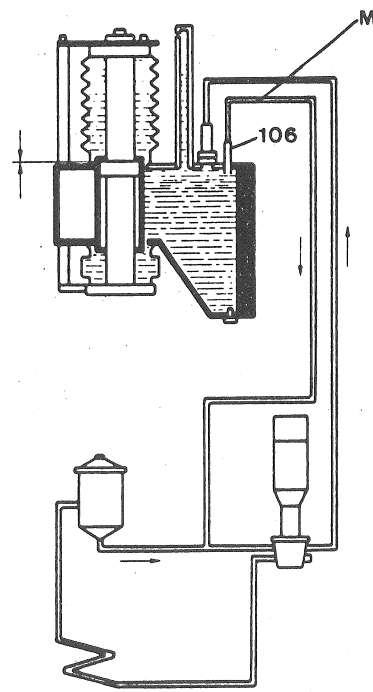

Fig 29
9. Remove the rubber guard from nozzle (106) and quickly insert the free end of the pipe (M) into the nozzle in order to prevent loss of oil (fig. 29).